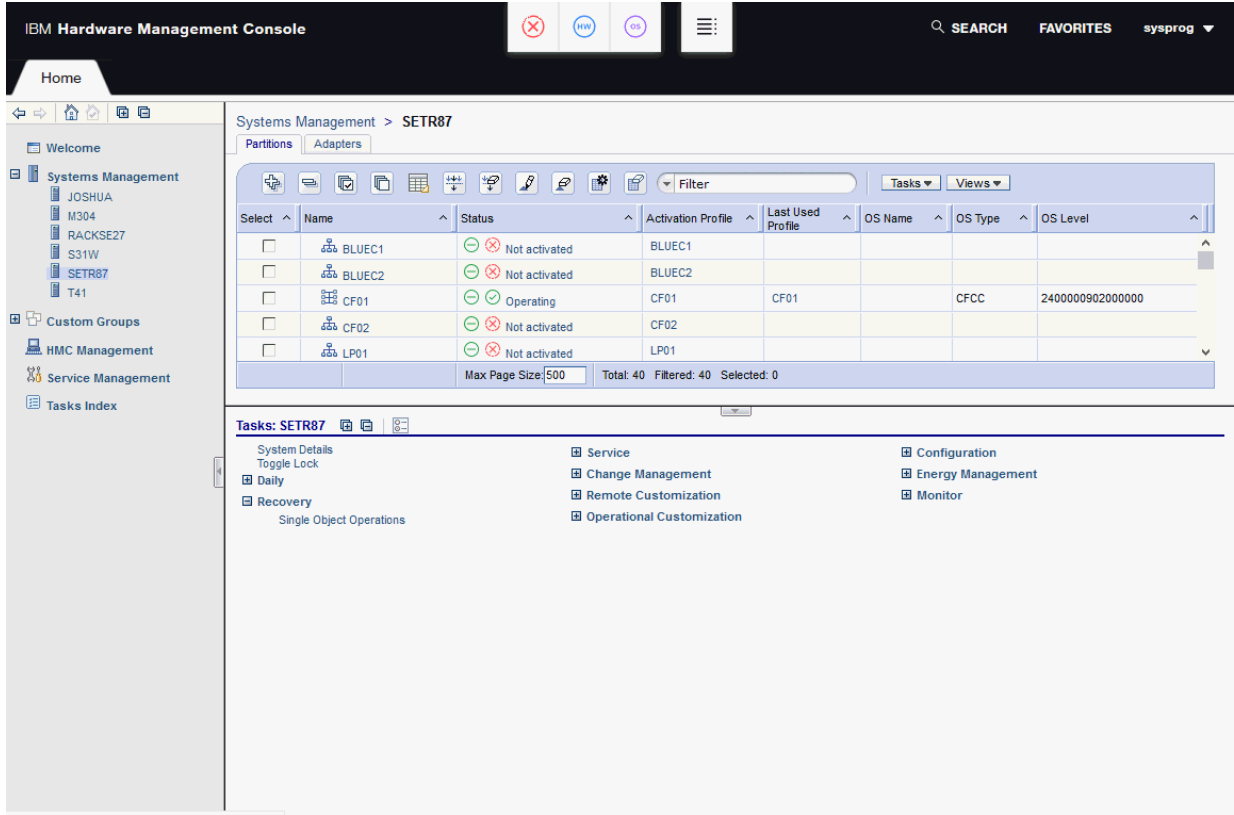

Figure 3. Recovery expanded
- In the tasks pad, expand **Recovery**. The **Single Object Operations** task is displayed. Figure 3 on page 4 shows this result.